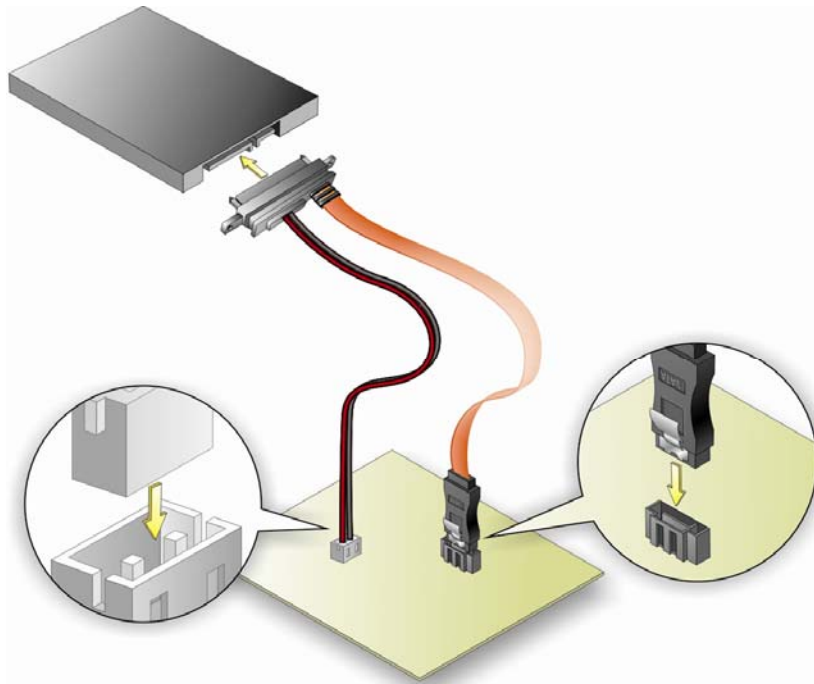

Figure 4-7: SATA Drive Cable Connection
- Step 2:** **Insert the cable connector**. Insert the cable connector into the on-board SATA drive connector and the SATA power connector. See **Figure 4-7**.
Step 3: **Connect the cable to the SATA disk.** Connect the connector on the other end of the cable to the connector at the back of the SATA drive. See **Figure 4-7**.